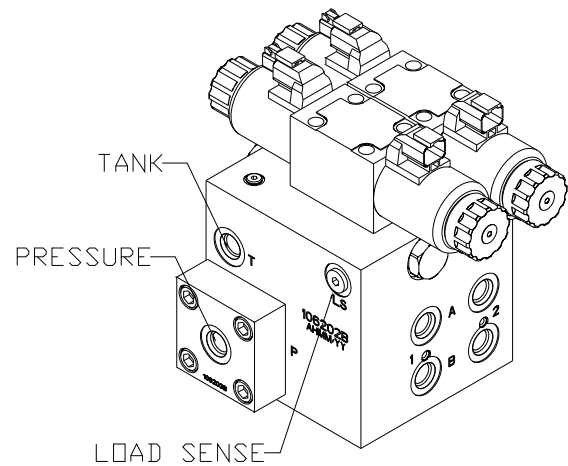

Figure 22: UC4+ Valve Block Ports
1. Refer to **Figure 22**. On a clean surface remove the plastic plugs from the “A”, “B”, “P”, and “T” ports of the NORAC hydraulic valve (**V01**). Install the 6MB-4MBSPP fittings (**F02**) on the “P” and “T” ports and tighten to 18 ft-lbs.